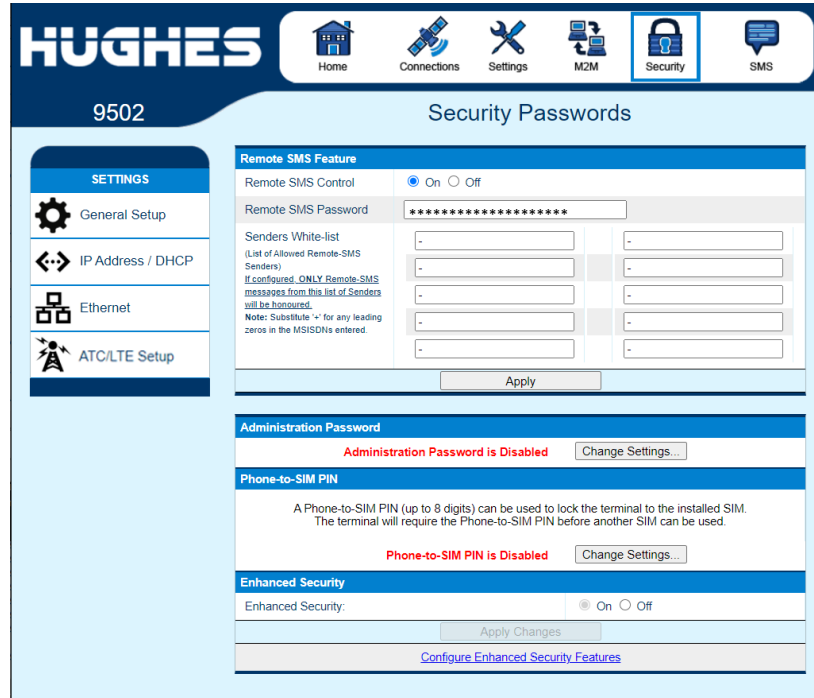

Figure 21: Enhanced Security Page Link
- Enhanced Security. If the Enhanced Security feature is enabled, a link to the Enhanced Security page will be displayed at the bottom of the page as shown in Figure 21. The remote SMS password will be shown encrypted, or as *** in 5.9.6.6 and above.